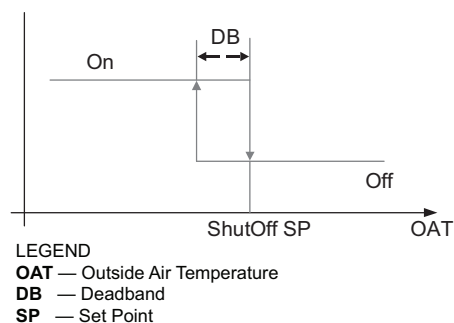

Fig. 81 — Hysteresis Settings
Hysteresis setting (DB) defaults to 2°F (−16.6°C). See Fig. 81.